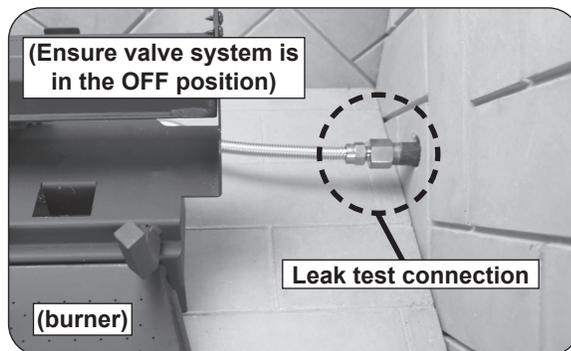

Fig. 15-4 Perform a leak test
5. **LEAK TEST:** Make sure the valve system is in the OFF position. Turn on the fireplace gas supply, and test at all connections for leaks using the appropriate soapy water solution. See Fig. 15-4. If bubbles appear, a leak is present. Turn off the gas and tighten at all connections. Repeat until no leaks are present. If a leak persists, turn off the gas supply and contact the local gas company or dealer. **NEVER USE A FLAME TO CHECK FOR LEAKS.**